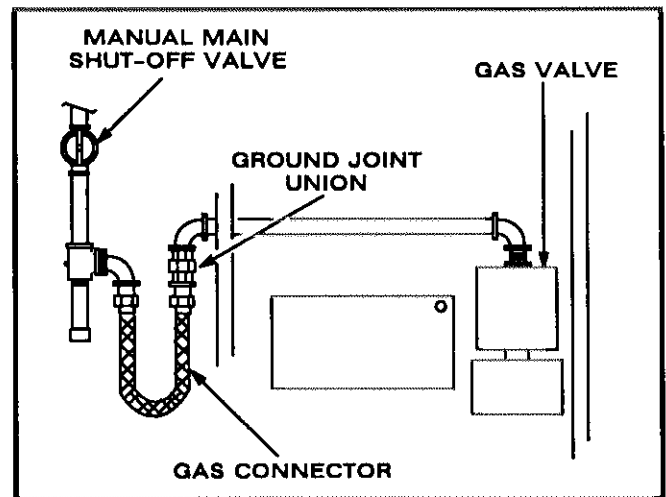
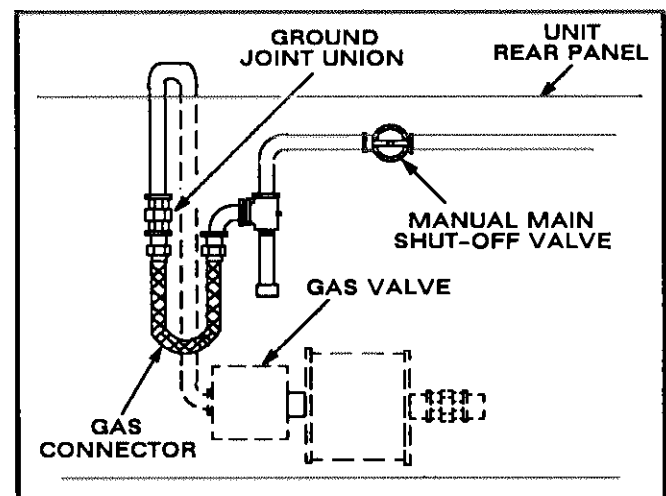

FIGURE 31
FIGURE 32
CAUTION-Flexible gas connector must not be used to exit the unit. Flex connector must be installed in U-shaped fashion in order to achieve its purpose. See figures 31 and 32. Do not secure to unit ducting or structure.
- 3- Center gas line through piping hole. Gas line should not touch side of unit. See figure 31 for downflow and figure 32 for horizontal application.